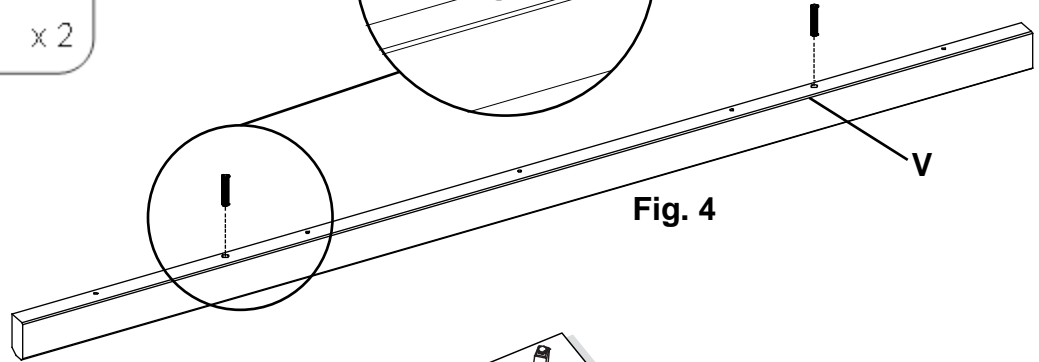

Fig. 4
4. Place two Wooden Dowels (P) into the Filler Strip (V). Gently hammer in the dowels so that they are entirely seated in the wood. Insert the dowels of the Filler Strip assembly (V) into the dowel holes of the Headboard Platform Assembly (K). See Figures 4, 4a and 4b.